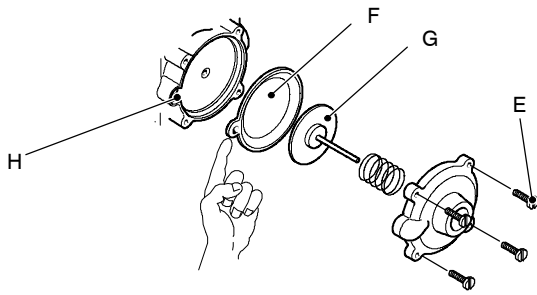

Fig. 54
- 3 Unscrew the four screws E (see Fig. 54) open the hydraulic operator and remove the membrane F.
When assembling the membrane, ensure that its concave side faces towards the actuator plate G and the reference indicated aligns with the seat H (see Fig. 54).